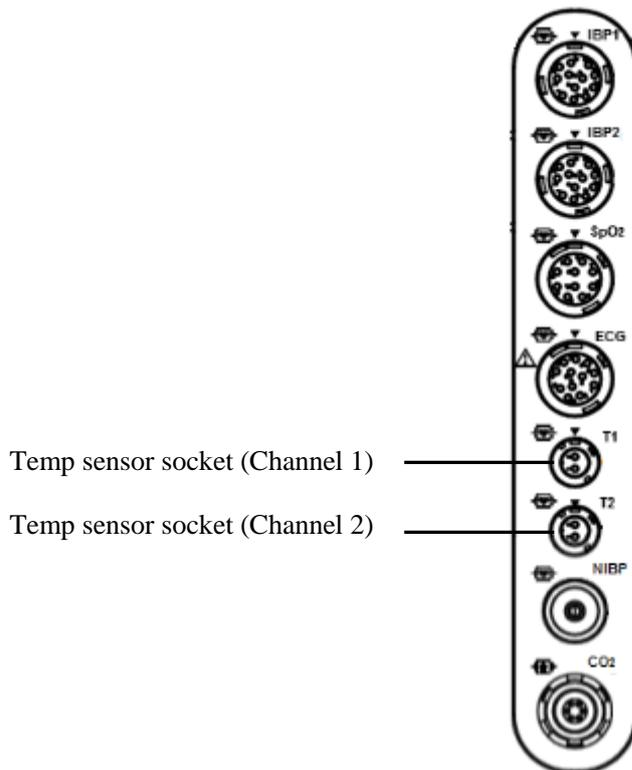

Figure 6.20 Temp Sensor Socket
2. Connect a calibrated reference manometer with a precision of at least 0.11 kPa (0.8 mmHg) and a pressurization ball with the NIBP module's pneumatic system by using a T-connector and hoses, as referred to Figure 6.20.
This series of monitors' measure body temperature by means of a temperature sensor by the following two channels: as Figure 6.20 shows.